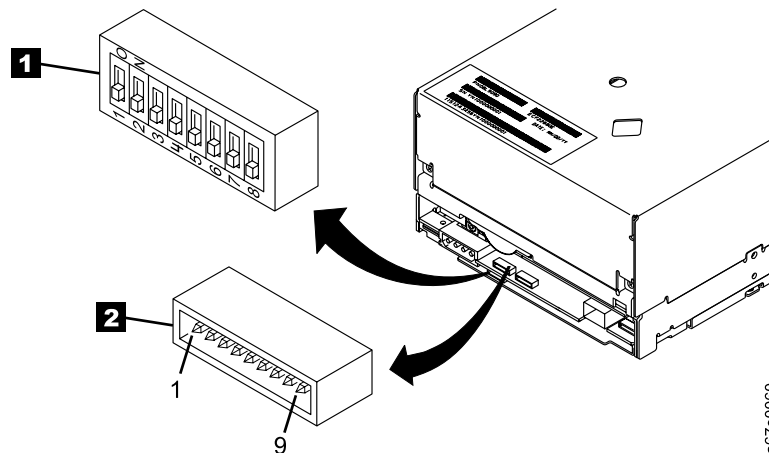

Figure 6. Setting the Loop ID and the AL\_PA. The feature switches are located on the bottom of the drive.
If Feature Switch 3 on the Ultrium 2 Tape Drive is set to OFF (see **1** in Figure 6), the LID/status connector **2** has the following definition:
2. Locate the LID/status connector on the drive (see **2** in Figure 6).
If Feature Switch 3 on the Ultrium 2 Tape Drive is set to 0N (see **1** in Figure 6 on page 20), the LID/status connector **2** has the following definition:
2. Locate the LID/status connector on the drive (see **2** in Figure 6 on page 20).